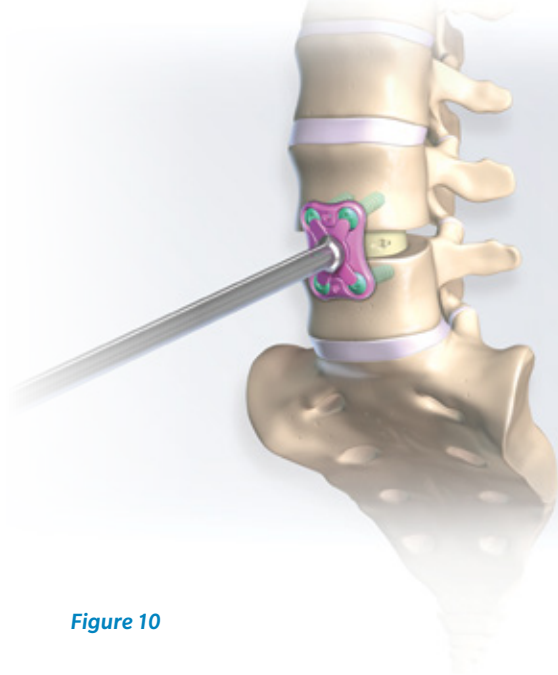

Figure 10
- Insert the cover plate set screw into the plate and tighten to the limit of the torque handle (50 in-lb [5.649 Nm]) (**Figure 10**).